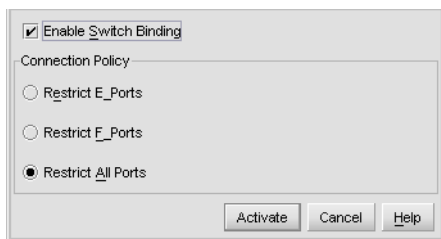

Figure 64 Switch Binding - State Change dialog box
1. Choose **Configure > Switch Binding > Change State** from the **Element Manager** window. The Switch Binding – State Change dialog box displays (Figure 64).